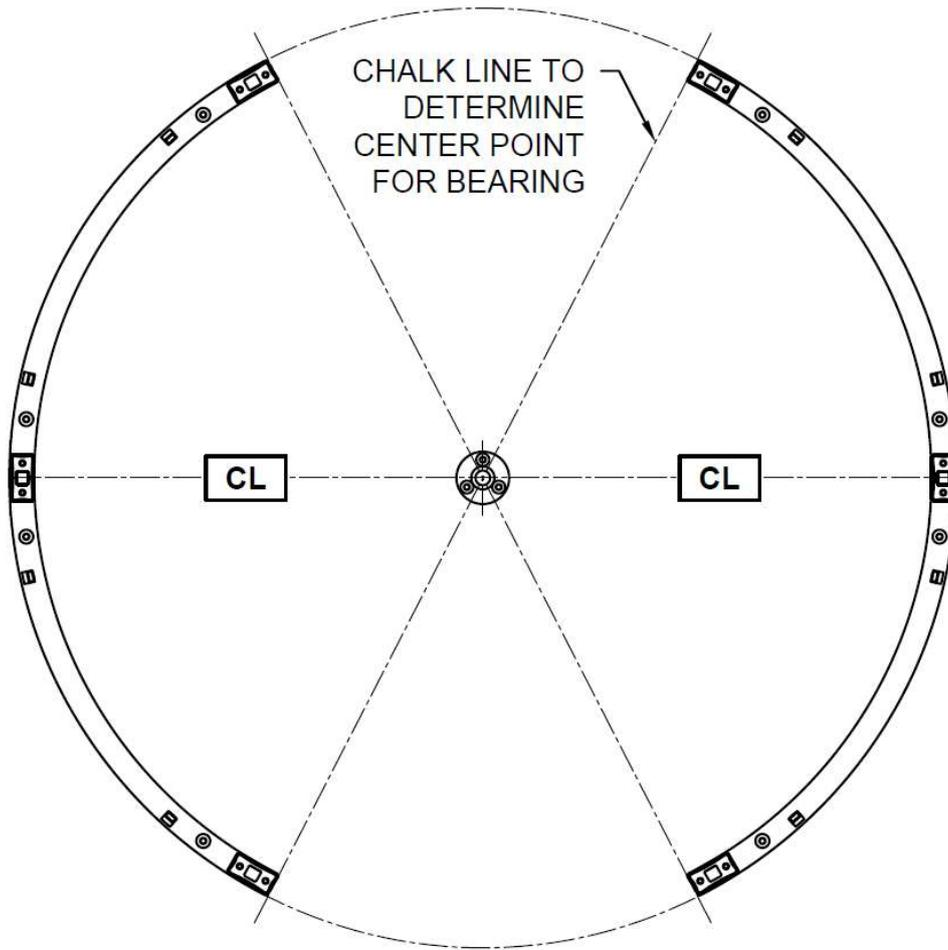

Figure 12: Marking for bearing plate
- 5.15. With the frame in place, check that the centre uprights are 1600mm over each other. Mark two chalk lines from the entry and exit uprights as shown in *Figure 12*.